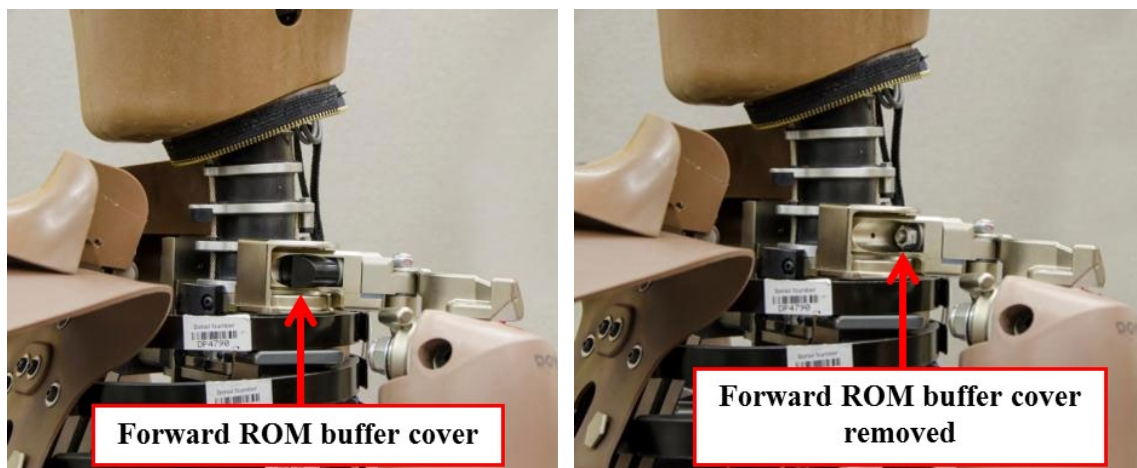

Figure 7-24. Removal of shoulder forward ROM buffer cover to reveal locknut
- 7.3.1.5 Remove the left forward range of motion (ROM) buffer cover (472-3816) to reveal the locknut behind it (Figure 7-24). Repeat for right arm.